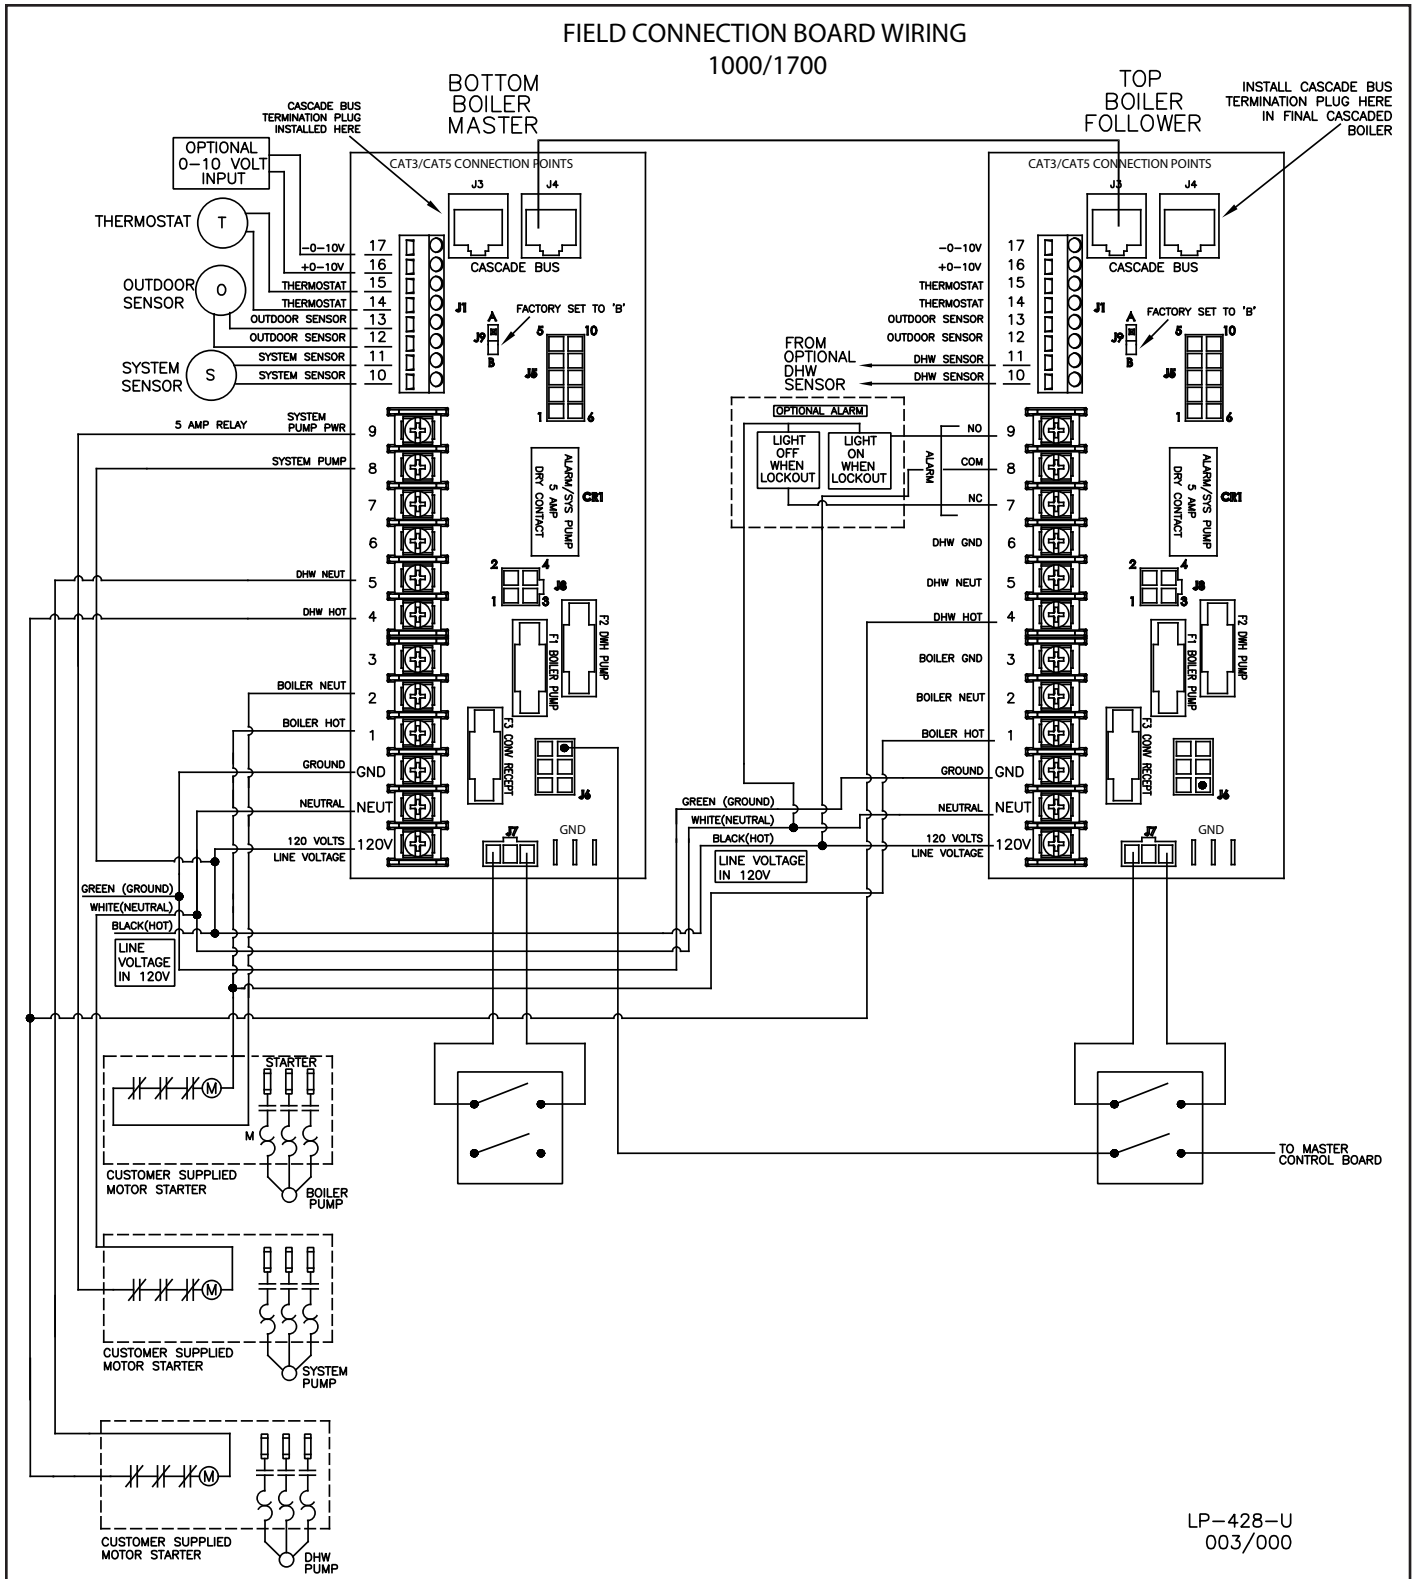

Figure 24 - Cascade Master and Follower Wiring
1. Connect the incoming power wiring to the line voltage terminal strip in the electrical junction box at terminals 120V, Neutral, Ground of the bottom boiler (shown in Figure 24).
The control includes a dry contact alarm output. This is an SPDT circuit, rated at 5 amps at 120 volts. This contact can be used to activate an alarm light or bell or notify a building management system if the boiler goes into a lockout condition. The circuit between the ALARM COM and NC terminals is closed during normal operation and the circuit between ALARM COM and NO is open during normal operation. The connections depicted in Figure 24 show two 120 volt lights connected to the alarm terminals. One light will be on when the boiler is in normal mode and the other light will be on when the boiler is in lockout mode.
1. Connect the room thermostat to the terminals marked THERMOSTAT in the electrical junction box (shown in Figure 24). Alternately, any dry contact closure across these terminals will cause the boiler to run. Caution should be taken to ensure neither of the terminals becomes connected to ground.
2. If using an outdoor sensor, connect wires for sensor to the terminals marked OUTDOOR SEN (shown in Figure 24) in the electrical junction box of the bottom boiler. Caution should be used to ensure neither of these terminals becomes connected to ground.
3. Connect the indirect tank sensor (7250P-325) to the terminals marked DHW SENSOR (shown in Figure 24) in the electrical junction box of the top boiler.
2. Connect a building management system or other auxiliary control signal to the terminals marked 16, 0-10 VOLT + and 17, 0-10 VOLT - in the electrical junction box (shown in Figure 24). Caution should be used to ensure that the 0-10 VOLT + connection does not become connected to ground.
NOTE: A termination plug is included in the CAT 3 / CAT 5 Bus Connection Point labeled J3 in Figure 24. DO NOT REMOVE THIS PLUG UNLESS INSTRUCTED TO DO SO. Doing so will affect boiler operation and void warranty.